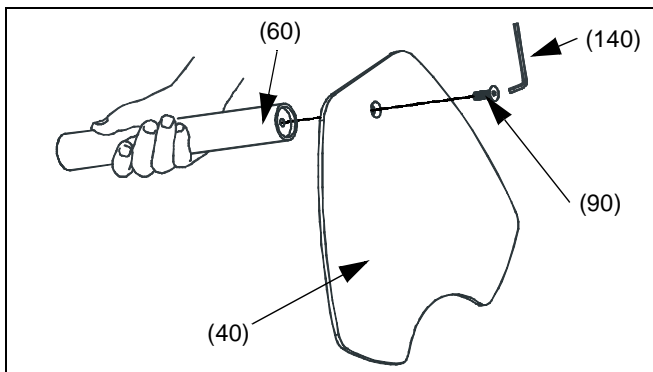

Figure 2: Assemble Pole to Base
1. Assemble pole (60) to base (40) using one 3/8-16 x 1" FHCS (90). (see Figure 2)
1. Assemble pole (50) to base (40) using one 3/8-16 x 1" FHCS (90). (see Figure 2)